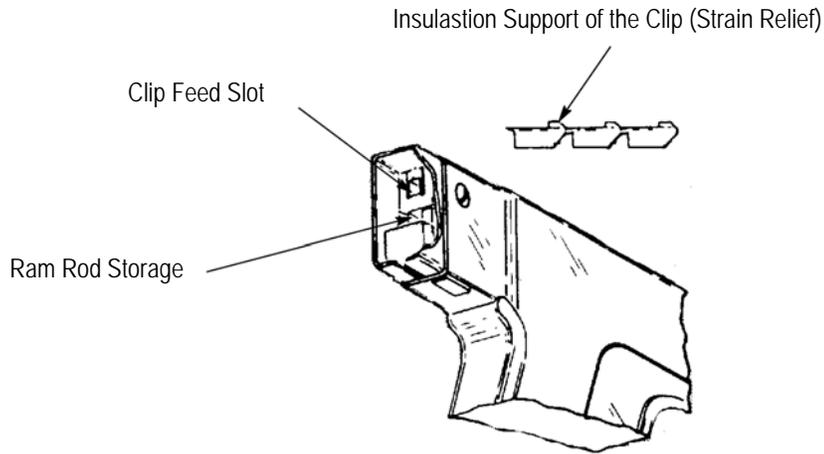

Figure 4
2. Insert the clips into the clip feed slot. See Figure 4. The insulation support (strain relief) of the clip must be "up" and facing toward the front of the tool.